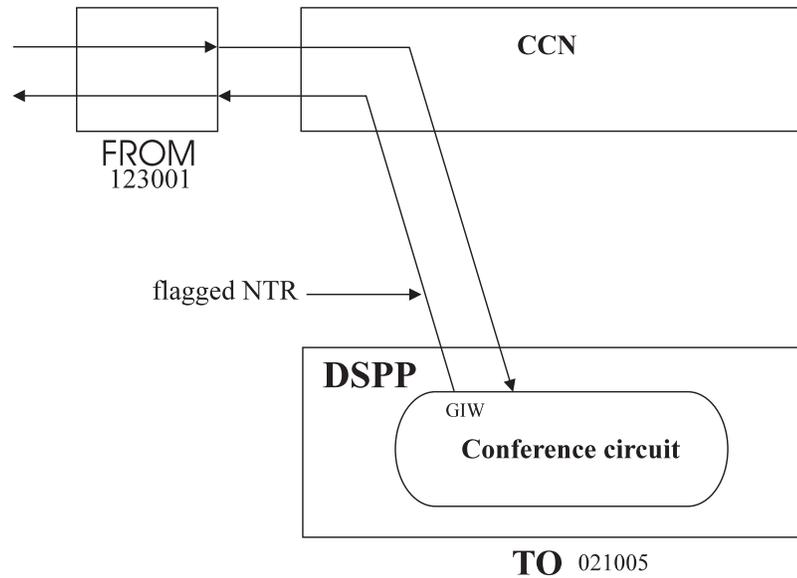

Figure 4-3. Two-Way Cross-connection Using NTR F
Figure 4-3 illustrates a two-way cross-connection using NTR F. The DSP circuit pack sends the insertion word (IW) towards the FROM direction (the facility terminating NPC).